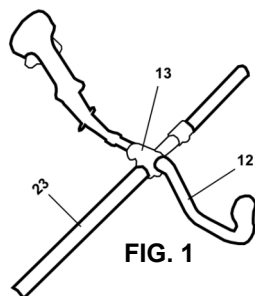

FIG. 1
2. Locate the handle (12) to the upper side of the upper shaft (23) and secure in place with the bolts (Fig. 1).